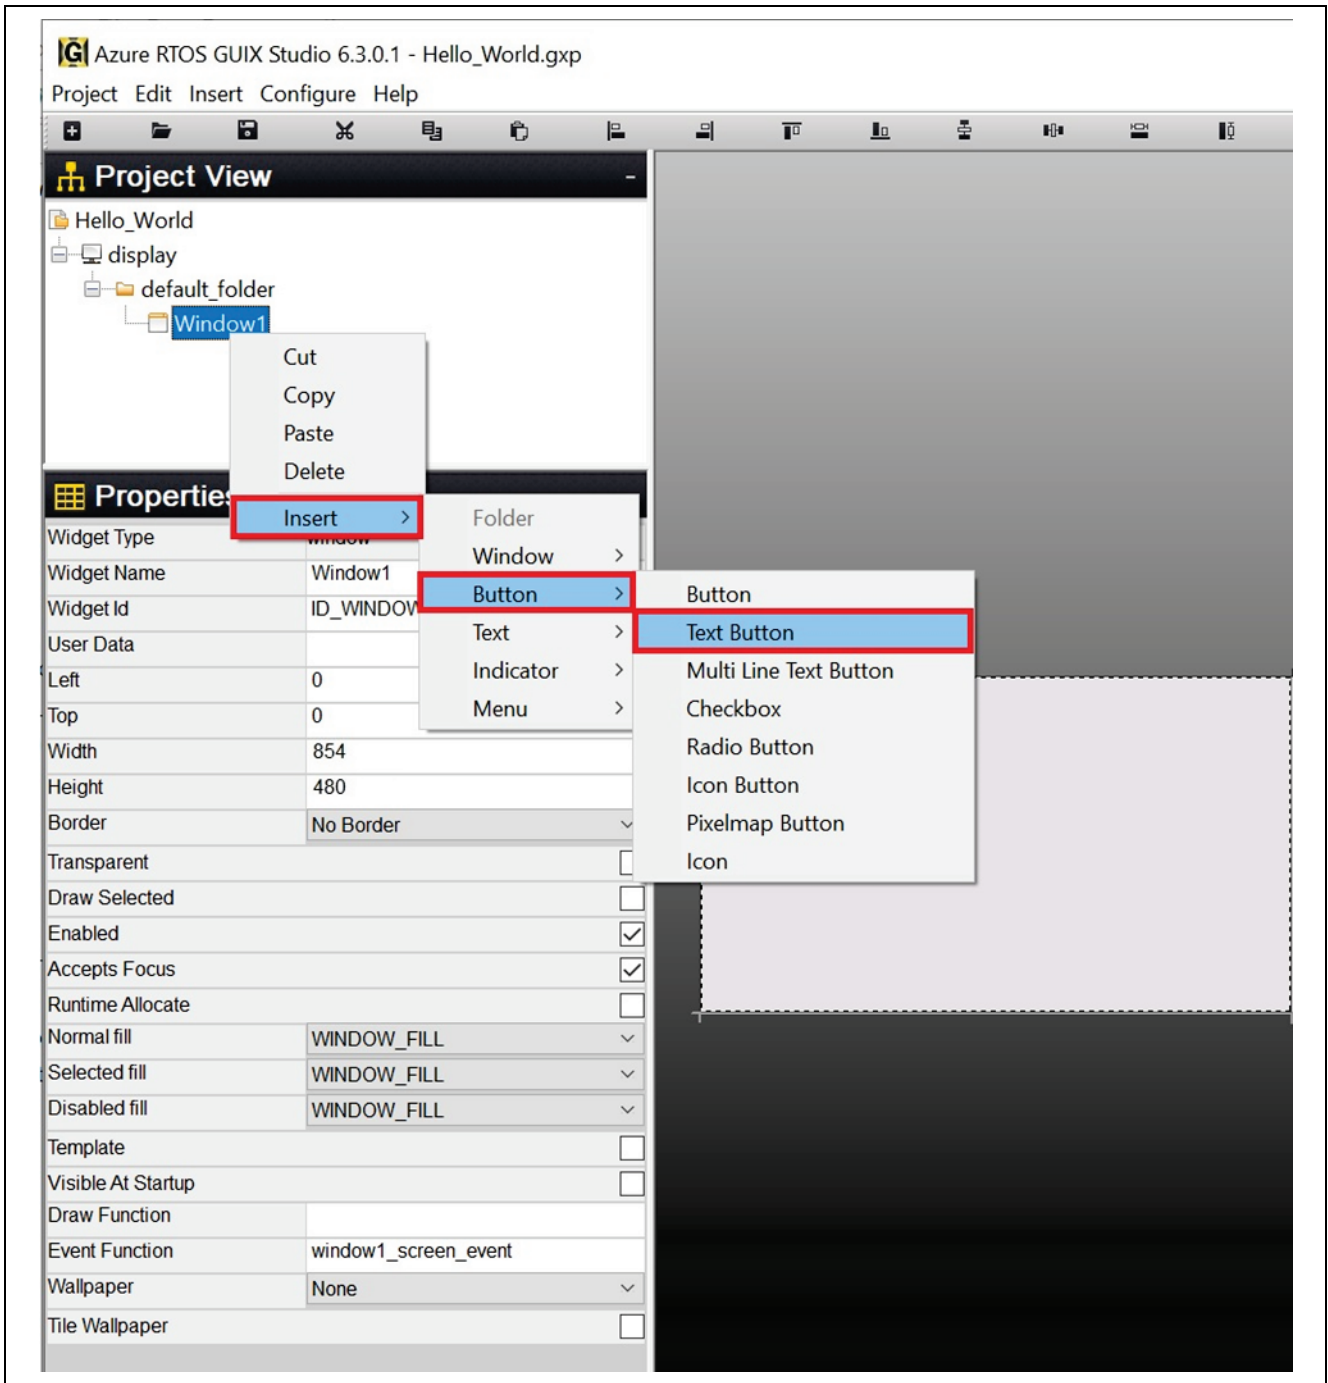

Figure 50. Insert Text Button
11. Right-click on **Window1** in the **Project View** to insert a **Text Button** and follow **Figure 50**.